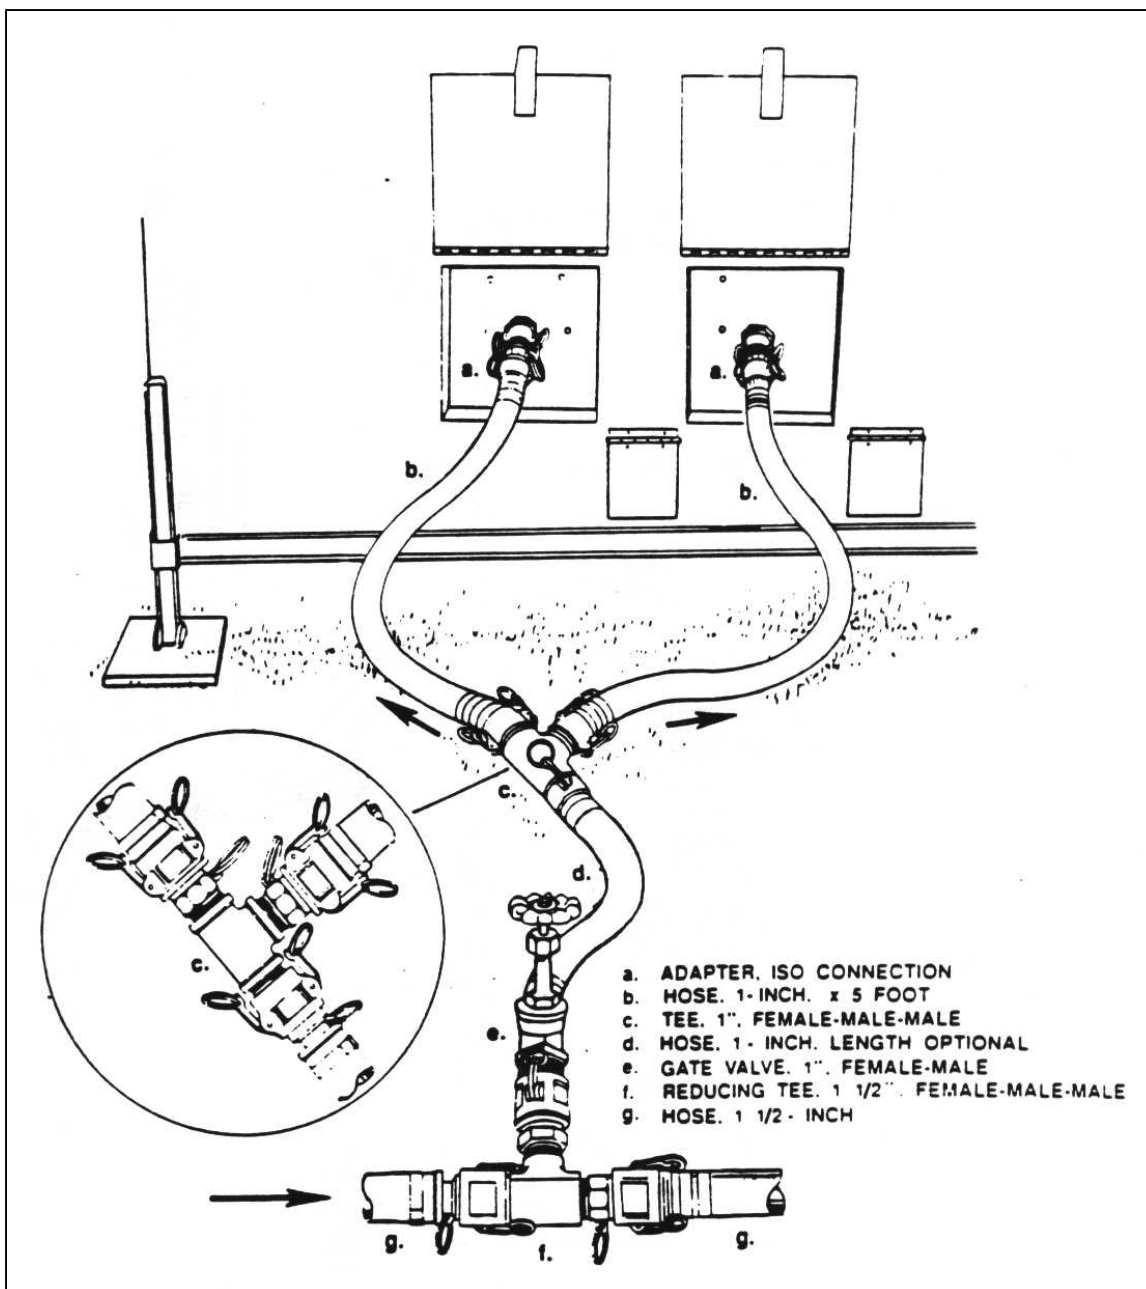

Figure 1-1
(1) The CMS ISO has two water receptacles. All other ISO's have one water receptacle (except OR, which has none). Figure 1-1 shows the connection between the main loop and the CMS ISO. The Hose (item D) is optional; you can omit it, or use any length (other than 50 foot) needed. Place the gate valve next to the tee (item f). Placing the valve here enables you to disconnect an